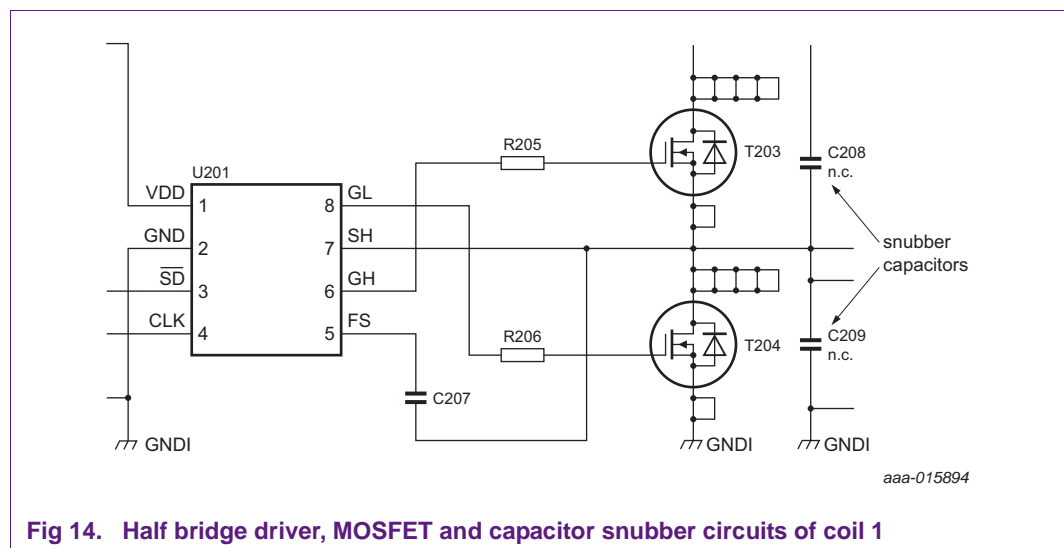

Fig 14. Half bridge driver, MOSFET and capacitor snubber circuits of coil 1
If a different MOSFET other than NX2020N2 is designed in, the gate resistor must be adjusted depending on the gate capacitance of the MOSFET. The applied gate resistance and gate capacitance forms an RC time constant which influences the on/off switching times. In particular, the upper FET drive resistor R205 in Figure 14 serves to slow down the Trench MOSFET fast switching action, thus reducing noise.
The option for a capacitor snubber circuits C208 and C209, in Figure 14, are included but not populated in NXQ1TXA6 Evaluation Board. They are located across the switching MOSFETs to allow tuning to reduce Electro-Magnetic (EM) emission. Capacitor snubber circuits must be placed close to the switching MOSFETs. If snubber circuits are not required, they can be removed from the Bill of Materials.